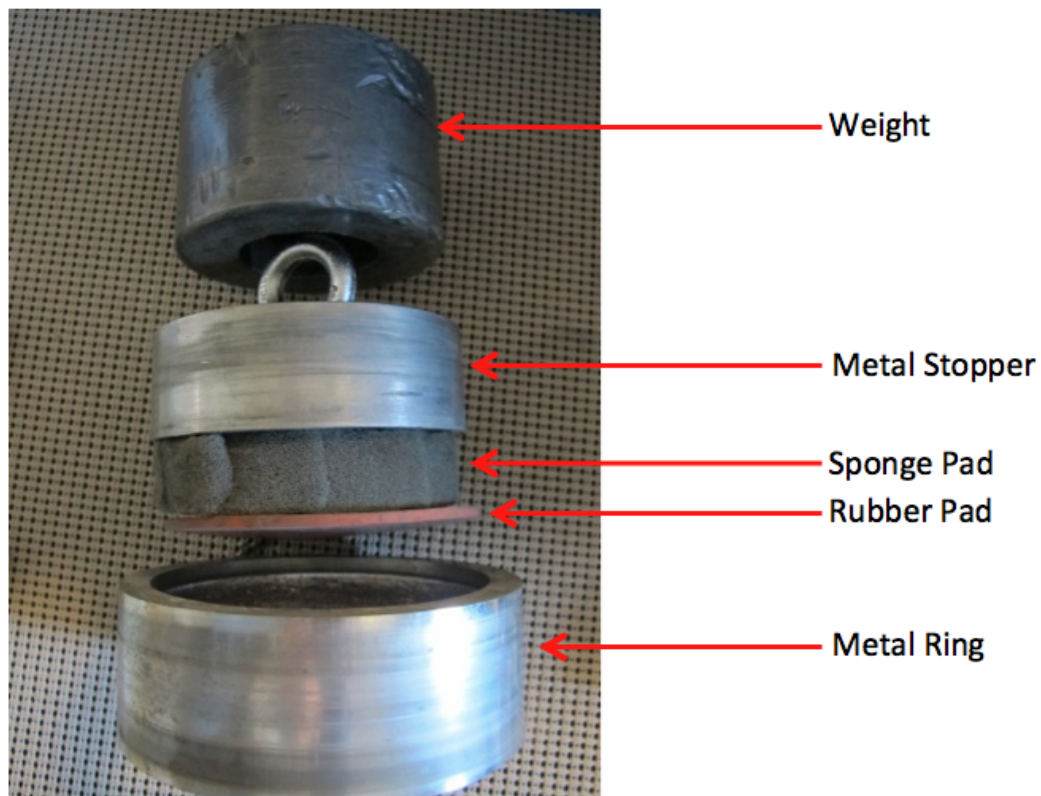

Figure 3
1. Put the rubber pad on top of the rocks (Fig. 3 and 4).
2. Sponge pad next on top of the rubber pad (Fig. 3 and 4).
3. Then metal stopper on the sponge pad (Fig. 3 and 4).
4. With the weight on top of the stopper (Fig. 3 and 4).